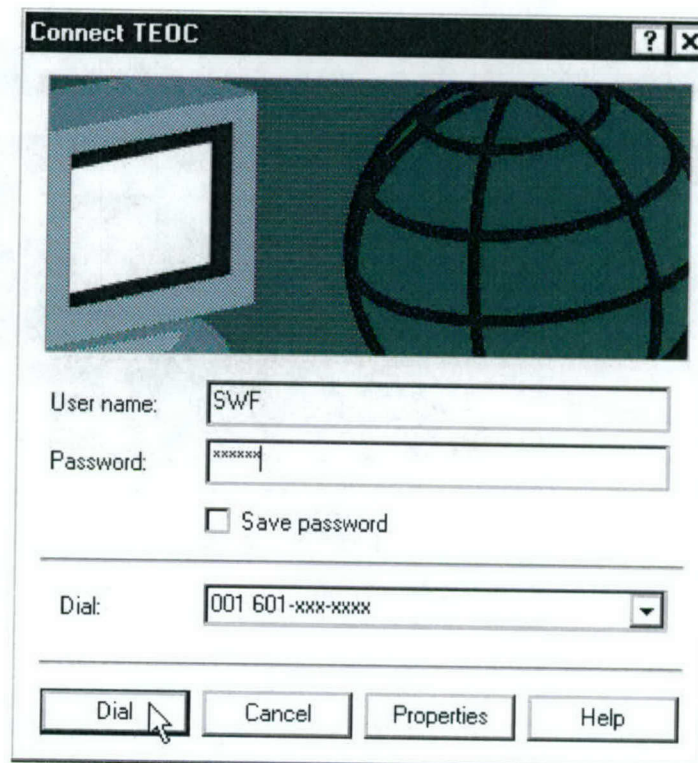

Figure 39. Pressing Dial on the Connect TEOC window
- (1) Press #, ensure DTE #1 is flashing (selected), and press Enter.
- (2) Select 2 (Dial Number) and press Enter.
- (3) Enter the 10-digit number provided by the TEOC, preceded by the number(s) required to dial from your specific site. For example, depending on your commercial service configuration, you may need to precede the number with a "7," "9," "1," "9-1," etc.
- e. When the ADTRAN displays Bonding 128K, press the Dial button on the "Connect TEOC" window (Figure 39). The system will verify your user name and password.